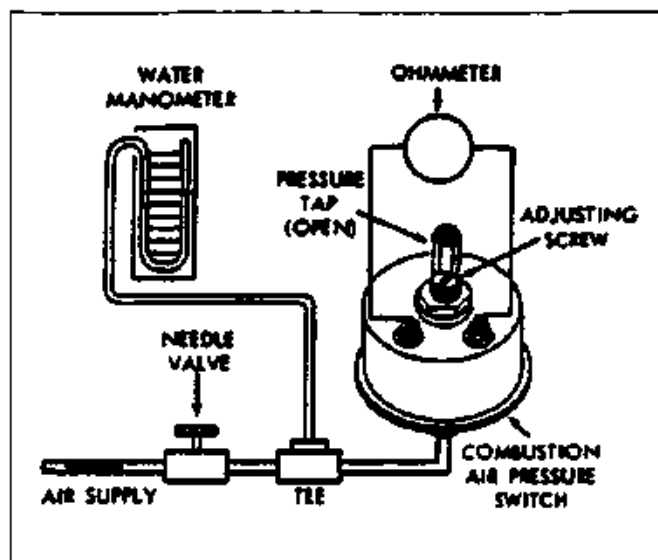

Figure 13-24. Test Set-Up for
a. Discard all rubber parts such as grommets, gaskets, etc. These items should always be replaced at overhaul. Also discard the rope gasket (85).
d. The combustion air pressure switch (41) must respond to delicate pressure changes and should always be checked and/or replaced at overhaul. (Refer to Paragraph 13-113, c, and Figure 13-24.)
1. Connect an adjustable air pressure line that can be controlled in a range of zero to 5.0 psi (maximum) of water to the switch opening with a water manometer and needle valve in the line ahead of switch. Switch must be tested in 45-degree position as shown in Figure 13-24.